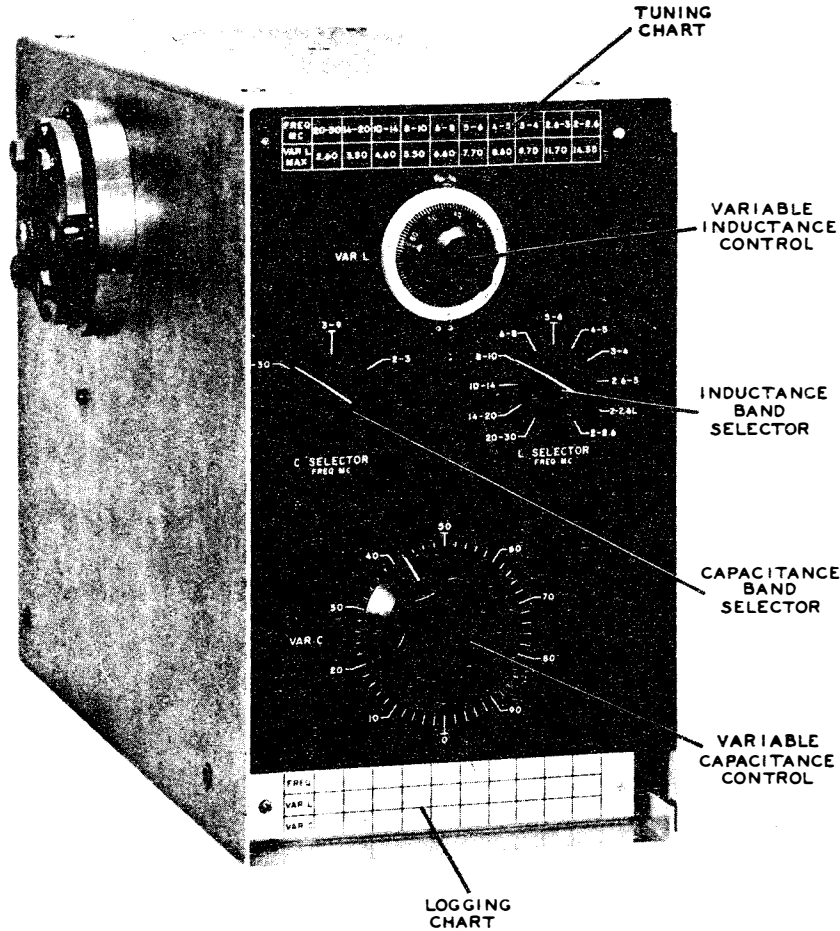

Figure 2. Operating Controls
2.1.1 OPERATING CONTROLS. (See figure 2.)